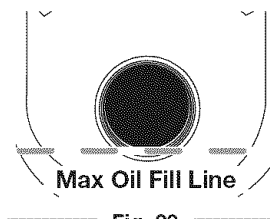

Fig. 20
6. If the oil level is not touching the innermost thread on the oil fill hole, add a small amount of oil to the oil fill hole and recheck (Fig. 20). Repeat this procedure until the oil level reaches the innermost thread on the oil fill hole.